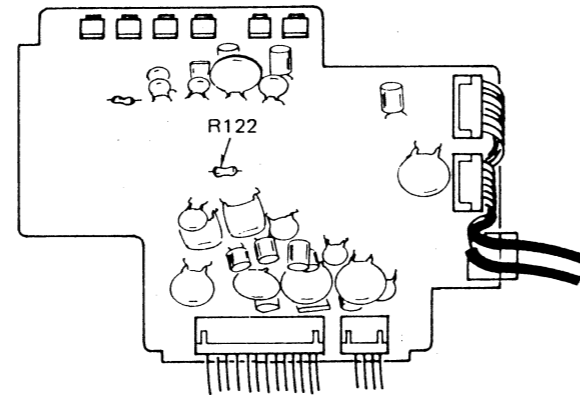

Fig: 4-8. Top view of O3 P.C.B. (Head Amp.)
1. Disable focus search by opening R122 (180k) on O3 P.C.B. as shown in figure 4-8.